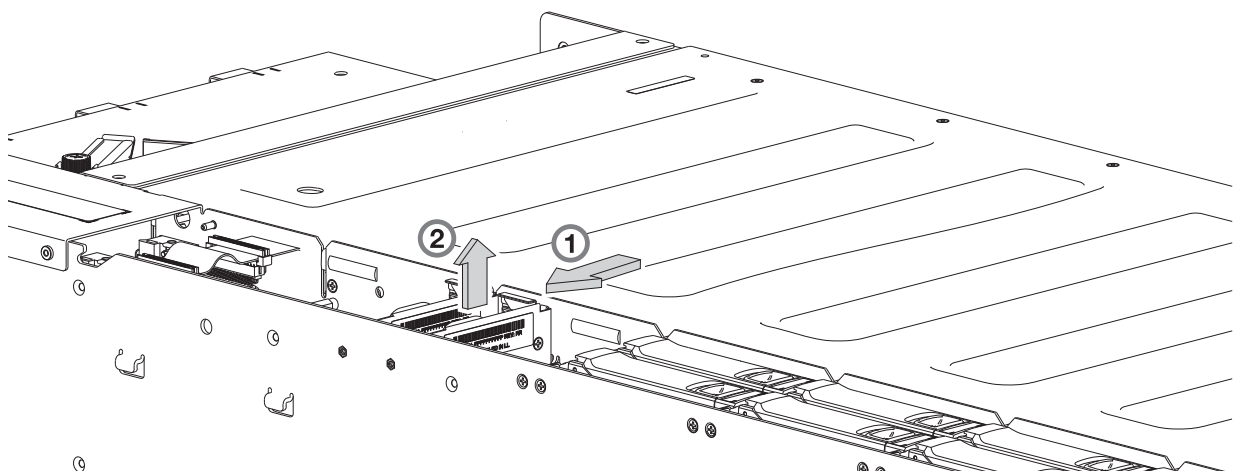
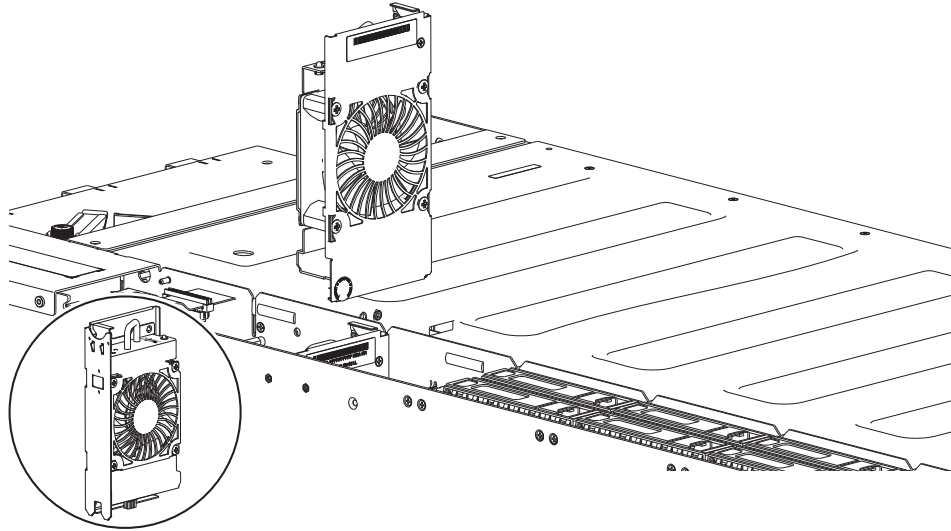

Figure 64 Removing a controller fan (1 of 2)
Figure 65 Removing a controller fan (2 of 2)
1. Grasp the latch tab on the interior channel wall of the enclosure, and squeeze the tab against the wall to release the channel fan from its locked position as shown in Figure 64.
2. With your other hand, grasp the handle located on the top of the fan, and pull upwards to remove the fan from its slot as shown in Figure 65.
Refer to Figure 64 \(page 79\) and Figure 65 when performing this procedure, but ignore the directional arrow. You will insert the module into the slot rather than remove it.